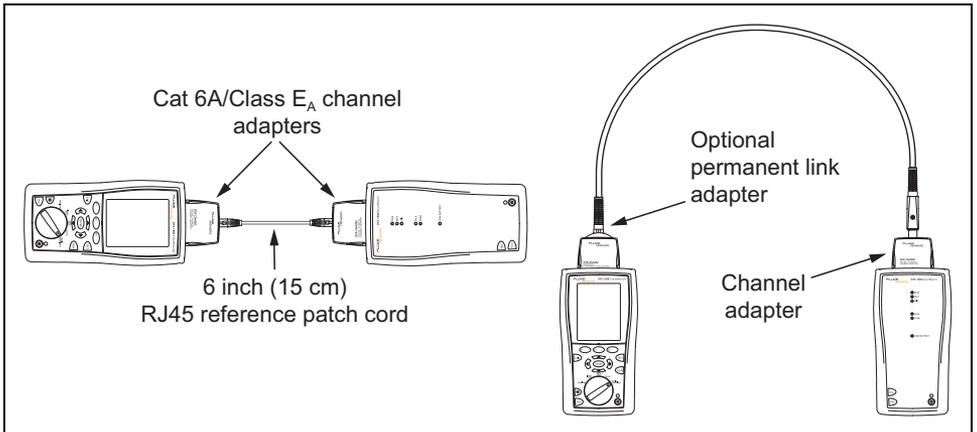

Figure 2. Twisted Pair Reference Connections
- 1 Connect the main and remote testers together as shown in Figure 2.